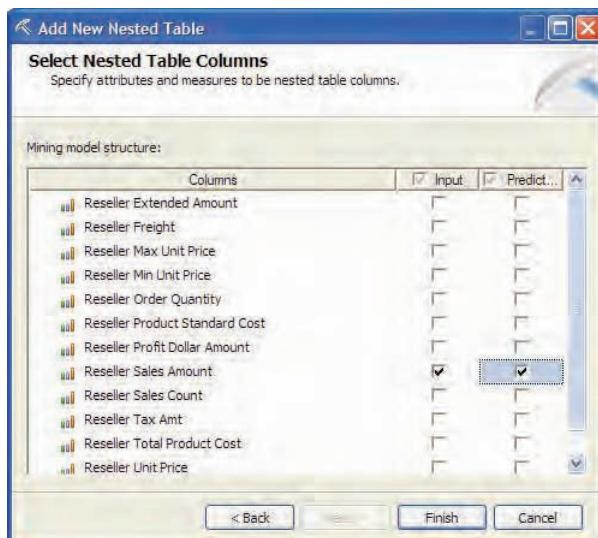
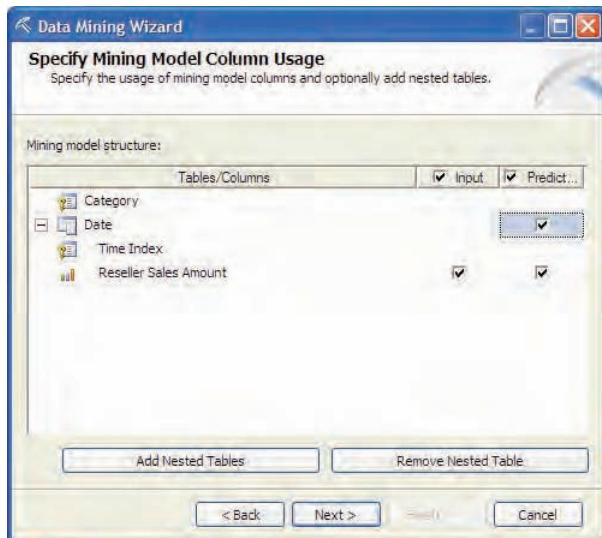

Figure 8.22 Select the predicted measure as both Input and Predict column to correlate the data series.
Figure 8.23 Set the nested table as a Predict column.
- In the Select Nested Table Columns Step (Figure 8.22), select the Reseller Sales Amount as both an Input and Predict column to enable cross prediction. Click Finish to return to the Specify Mining Model Column Usage step (Figure 8.23).